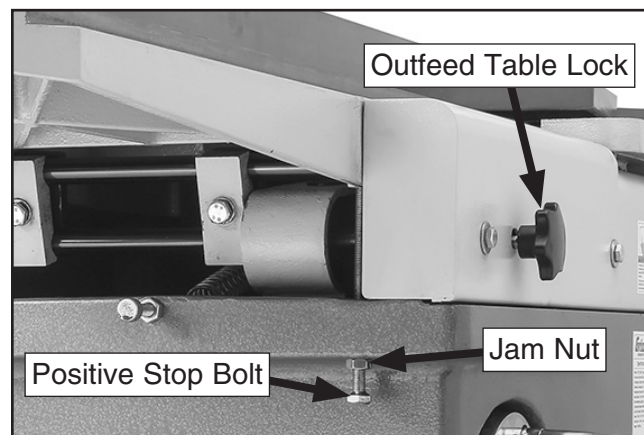

Figure 44. Location of outfeed table lock, positive stop bolt, and jam nut.
3. Loosen outfeed table lock and positive stop bolt jam nut (see **Figure 44**).